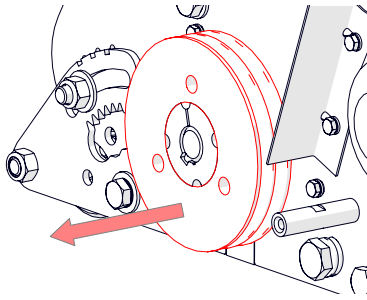

Fig. 18D - Remove the pulley.
7. The cylinder pulley requires removing but is held by a tapered bush. Remove the two grub screws [5 mm hex key] and then insert one of those grub screws into the empty third opening - the tapered bush and cylinder pulley will separate. Remove the grub screw. Additional force may be required to slide the tapered bush off the cylinder shaft. (Fig. 18D).